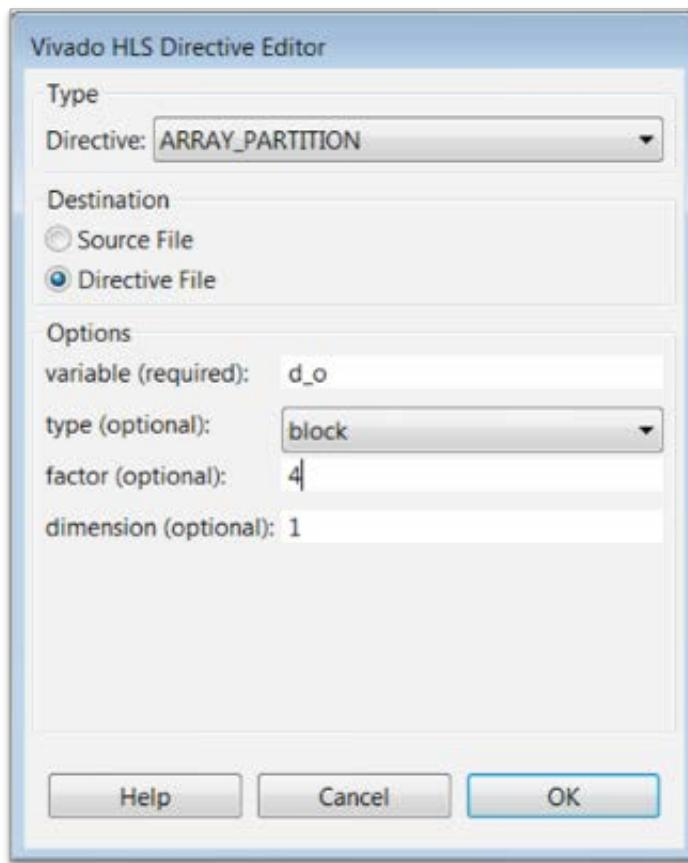

Figure 76 Directives Editor for Partitioning Array d_o
- d. With the Directives Editor as shown in Figure 76, click OK.